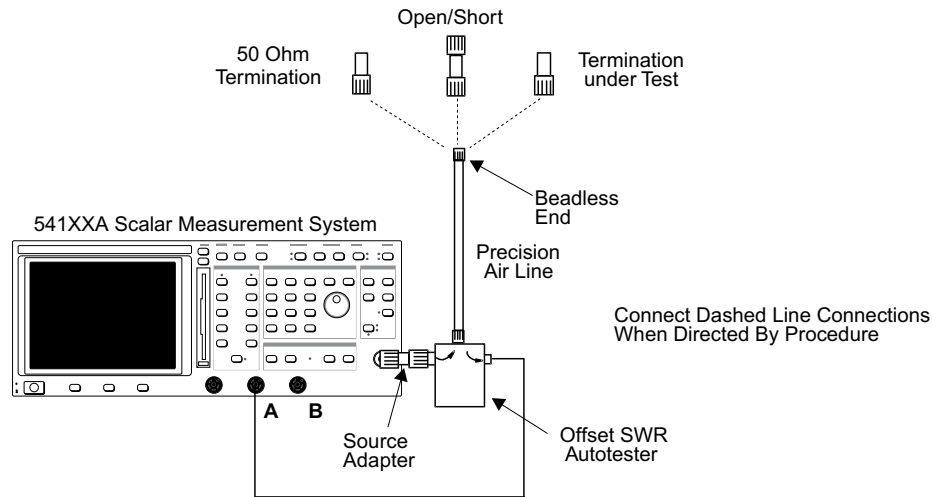

Figure 5. 541XXA Precision Return Loss Setup
1. Connect the test equipment as shown in Figure 5.